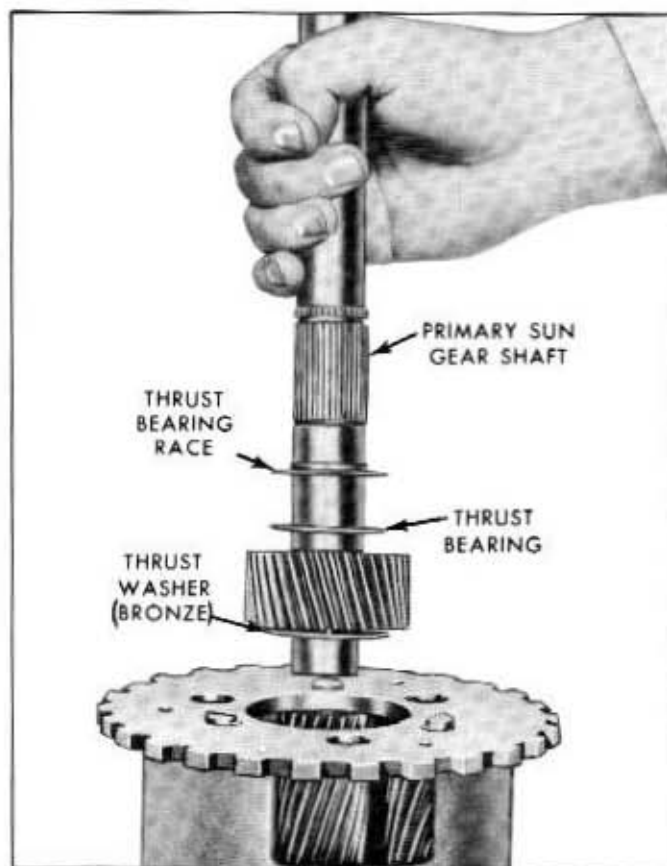

Fig. 7A-30—Primary Sun Gear and Shaft Removal—(60C-4430)
7. With the tool shown in figure 7A-31, push a long pinion shaft out until the tool just clears the pinion carrier bottom plate. Remove the long pinion gear with its top and bottom thrust washers out the center of the pinion carrier. With the pinion shaft, push the tool out of the gear. The shaft will hold the needle bearings, spacer, and thrust washers in position.